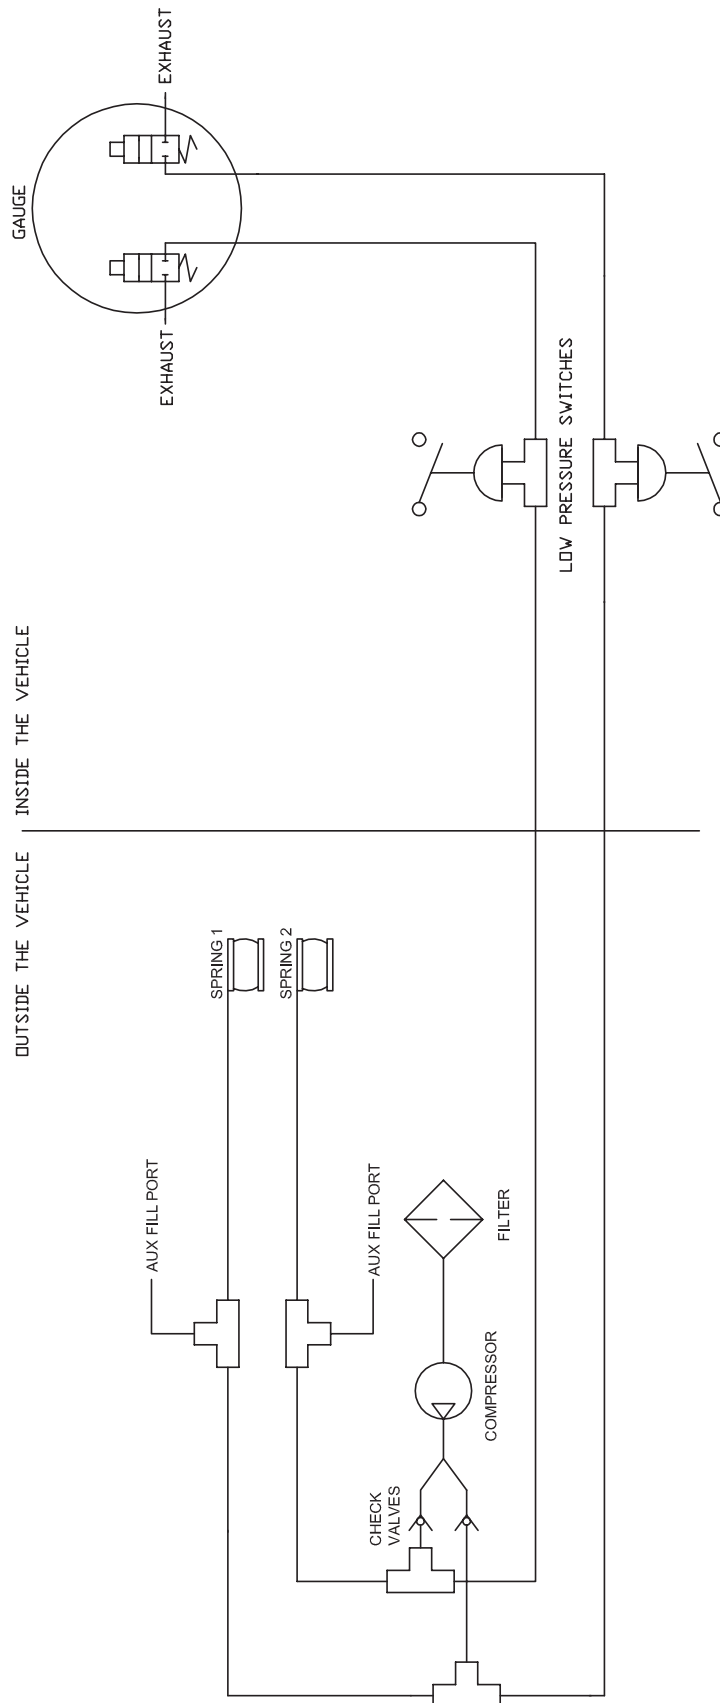

fig. 3
- e. Route air lines into cab from “T” fitting and attach to pressure switch assembly as shown in the pneumatic schematic (figs. 3 and 10).